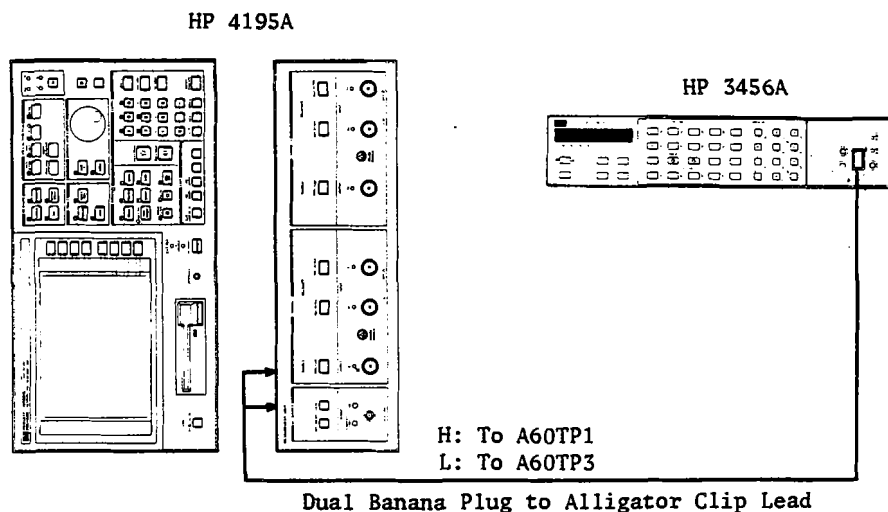

Figure 3-6. Supply Voltage Adjustment Setup
1. Position the HP 4195A on its left side with the cables connected as shown in Figure 3-6.